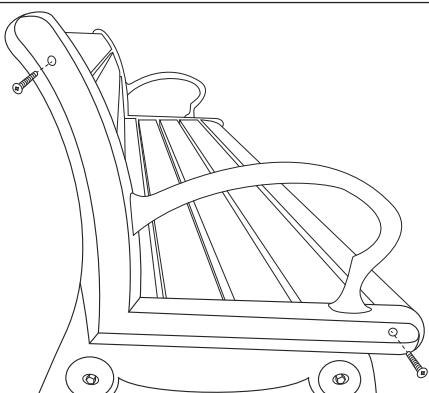

Figure 5
8. Using a drill with Phillips head bit, attach the 1½" screws through the pre-drilled holes of the side frames into the two rounded edge planks. These planks are located at the top of the backrest and at the front of the seat. (See Figure 5)